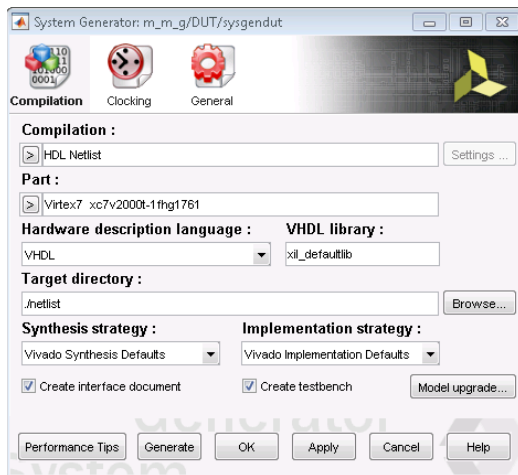
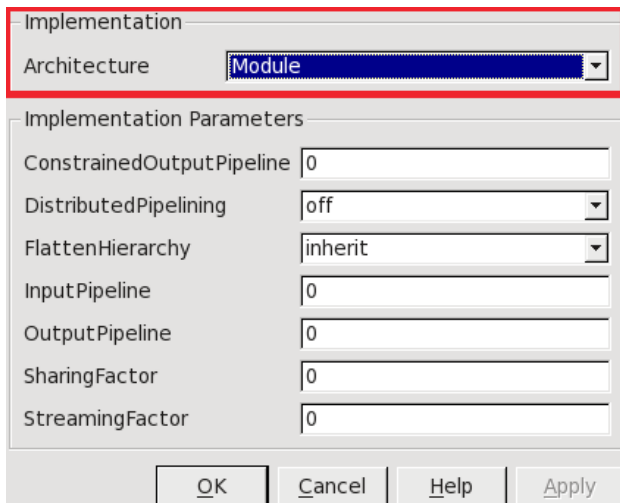

Figure 6. Compilation options for the Xilinx System Generator token.
Figure 7. Xilinx System Generator subsystem implementation parameters in HDL Coder.
2. . Ensure the subsystem's Architecture parameter is set to Module, which is the default value. (See Figure 7 for more on this setting.)
HDL Coder supports Xilinx System Generator code generation with the following settings only (Figure 6):
Note: The Multirate Implementation and Provide Clock Enable Clear Pin Settings are on a different tab and are not shown in Figure 6.
In addition to the settings described above for HDL code generation, HDL Coder requires the Architecture parameter of Xilinx System Generator subsystems to be set to Module (Figure 7). If code generation is performed with HDL Workflow Advisor, the device settings for Workflow Advisor and Xilinx System Generator tokens must be identical, as shown in Figures 6 and 8.